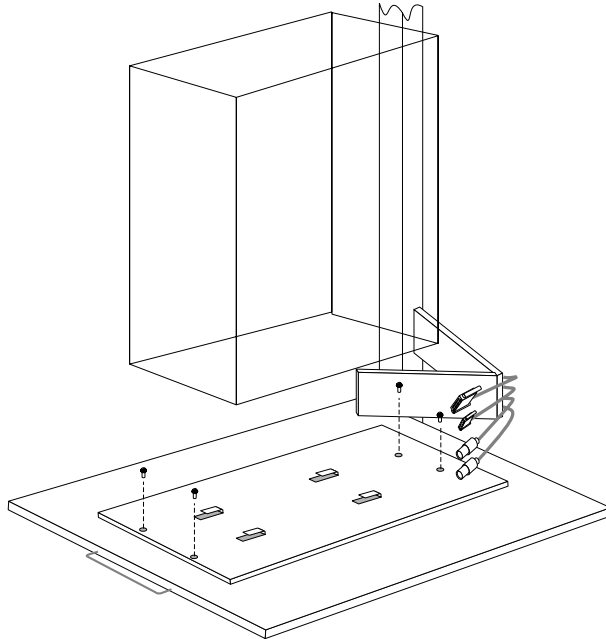

Figure 22. Installing a PC Server 500 or 700
3. Place the mounting plate on the sliding tray with the mounting plate's tabs pointing toward the front of the sliding tray (see Figure 22).